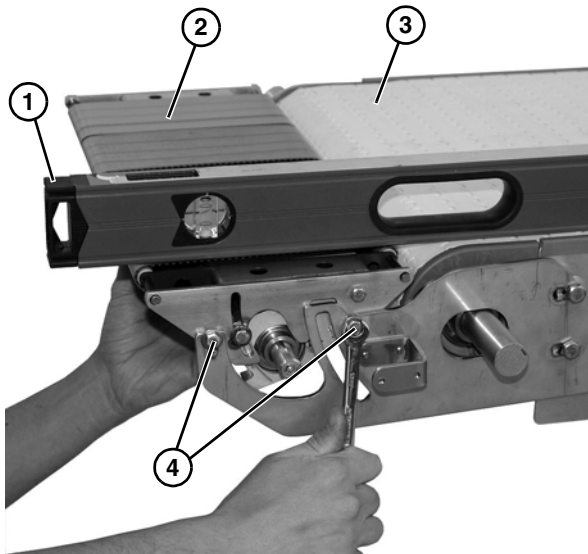

Figure 42
- To adjust height, place level (Figure 42, item 1) or straight edge to level power transfer assembly (Figure 42, item 2) with conveyor belt (Figure 42, item 3). Tighten two bolts (Figure 42, item 4) to secure position.